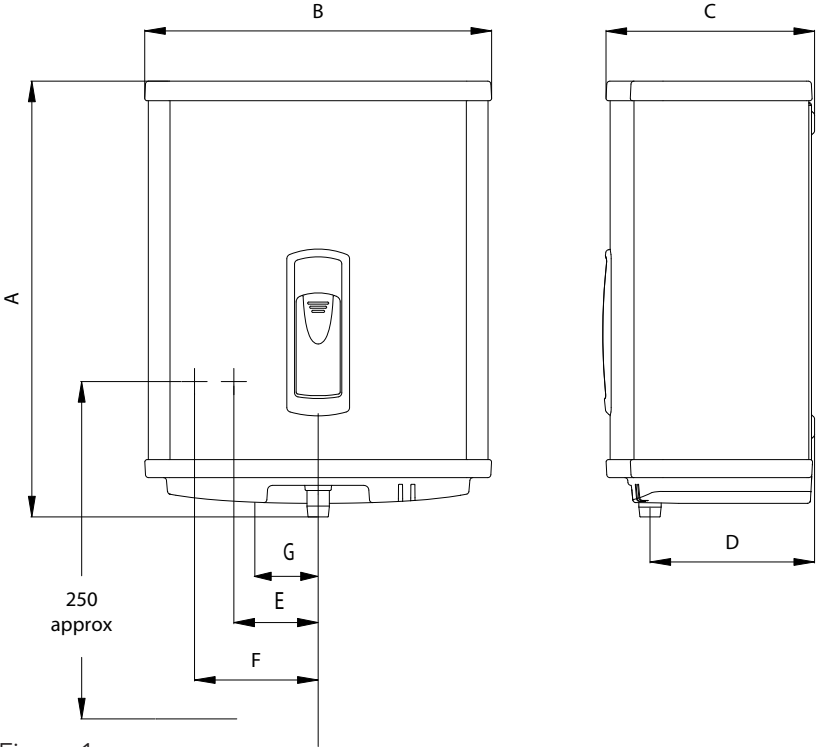

Figure 1
- 2.2 Figure.1, p6 details the outside dimensions of the Supreme unit. A template is supplied to aid positioning the heater. It is recommended that the unit is positioned above a draining board. If this is not possible consideration should be given to any spillages that may occur under the heater. A drip tray is available as an accessory (part no. 95 970 123). The heater should be positioned at a height to suit the items being filled (flasks, pans, cups etc.). This is likely to position the base of the unit 250mm above the work surface.